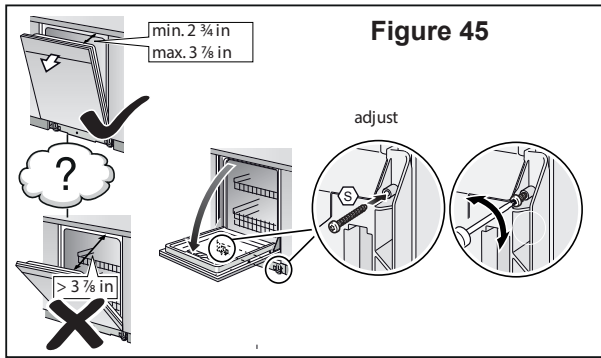

Figure 46
1. Ensure the time projector is visible (depending on the model). Also when attaching the toe panel, ensure the distances are in the correct ranges. See **Figure 46**.